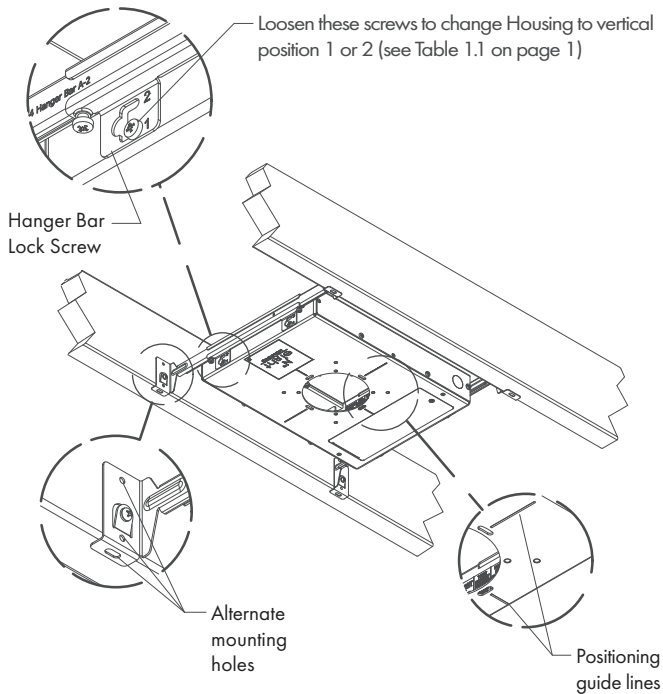

FIG 3.1 Fastening Housing to joists
- STEP 1 Spread Hanger Bars to approximate joist spacing. Temporarily secure Lock Screws to keep Housing from sliding along Hanger Bars – **FIG 3.1 and 3.2.**
- STEP 2 Secure Housing and Hanger Bar assembly to Joists using either the fasteners supplied on Hanger Bars or fasteners through alternate mounting holes – **FIG 3.1.**
- STEP 3 Reposition Housing along Hanger Bars as needed. Use guide lines to help locate Housing relative to nearby walls or other fixtures – **FIG 3.1 and 3.2.**